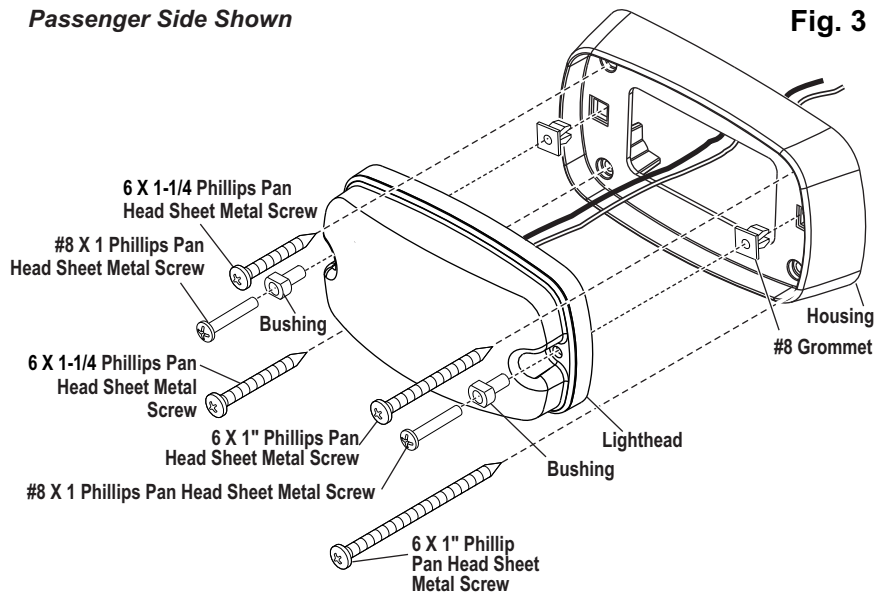

Fig. 3
4. Secure the lighthouse/housing to vehicle using supplied mounting hardware (Fig. 3).